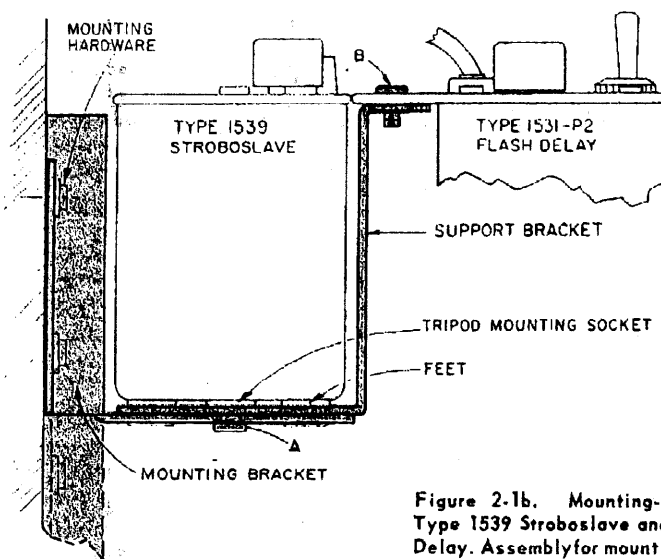

Figure 2-1b. Mounting-bracket assembly for
- a. Nest the Stroboslave feet in the four 9/16" diameter holes in the bracket assembly as shown in Figure 2-1b, and tighten screw (A) securely. If the Flash Delay unit is not to be mounted with the Stroboslave, the bracket-assembly hardware and the support bracket may be omitted.
- b. Mount the Flash Delay unit to the support bracket, using two screws (B) as shown.
To mount the instruments on a vertical surface, proceed as follows (see Figure 2-1b):
- a. Omit the bracket-assembly hardware and assemble the Stroboslave, mounting bracket, and support bracket (as shown in Figure 2-1b), using screw (A).
- b. Mount the Flash Delay unit to the support bracket using screws (B) as shown. If the Flash Delay is not to be used, omit the support bracket.
When mounting on a vertical surface, the position of the mounting bracket can be reversed (see dotted outline, Figure 2-1b).